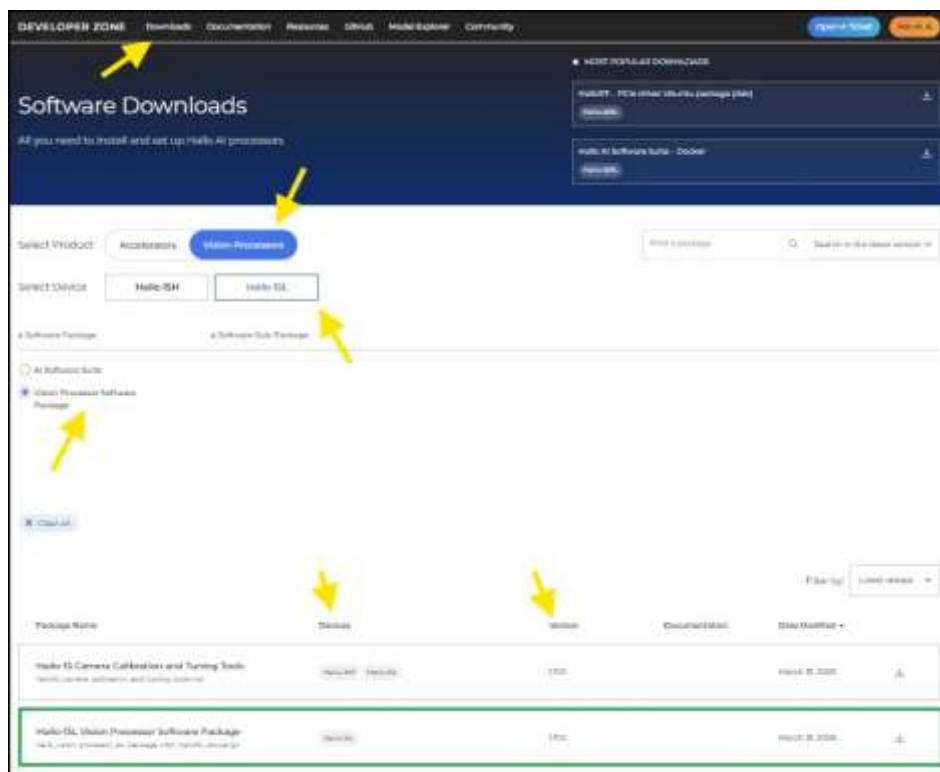

Figure 7. Software Download Page in the Hailo Developer Zone
1. Download the Hailo-15L Vision Processor Software Package from Hailo Developer Zone (see Link) as shown in Figure 7